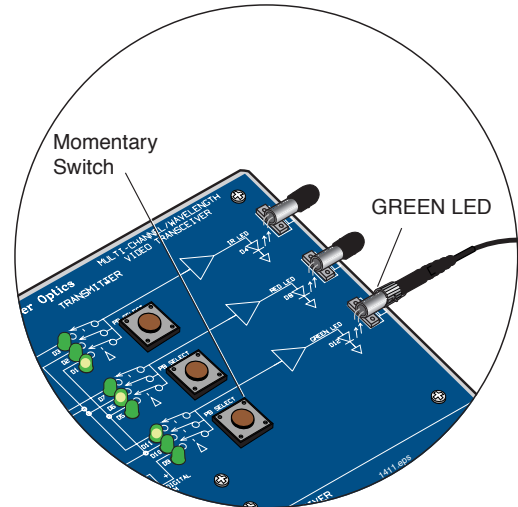

Figure 5. Location of the switch to select the electrical input to the green LED.
2. Press the bottom momentary switch as indicated in Figure 5 until the LED labeled D11 is lit.